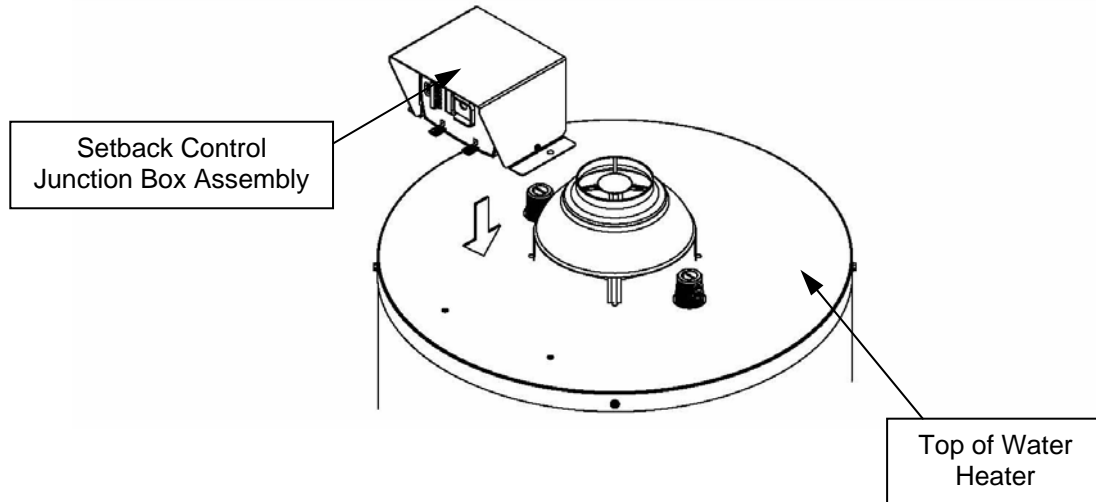

Figure 38
Step 11: Put the Setback Control Junction Box Assembly back on top of the water heater and position it to the pre-drilled holes. This is shown in Figure 38.